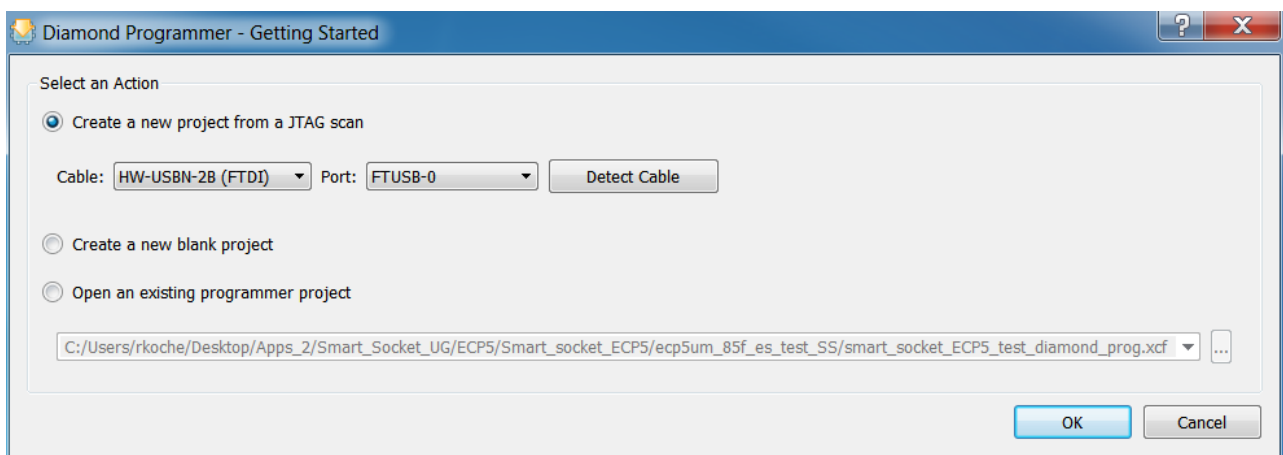

Figure 6.1. Getting Started
1. Launch the Lattice Diamond Programmer software. The **Diamond Programmer - Getting Started** dialog box appears as shown in Figure 6.1.